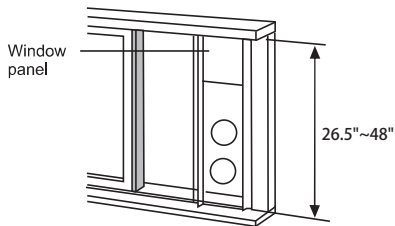

Fig.13
2. Attach the window slider kit to the window stool. Adjust the length of the window slider kit according to the width of window, shorten the adjustable window kit if the width of window is less than 26.5 inches.Open the window sash and place the window slider kit on the window stool. See Fig.13.